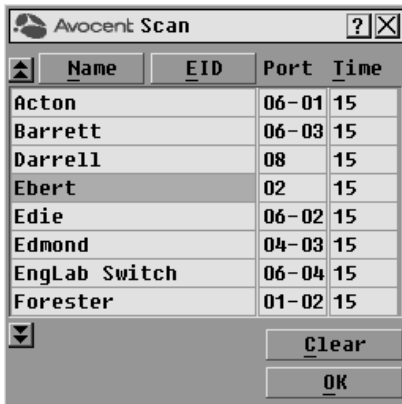

Figure 3.8: OSCAR Interface Scan Dialog Box
- Click *Setup - Scan* to open the Scan dialog box shown in Figure 3.8.